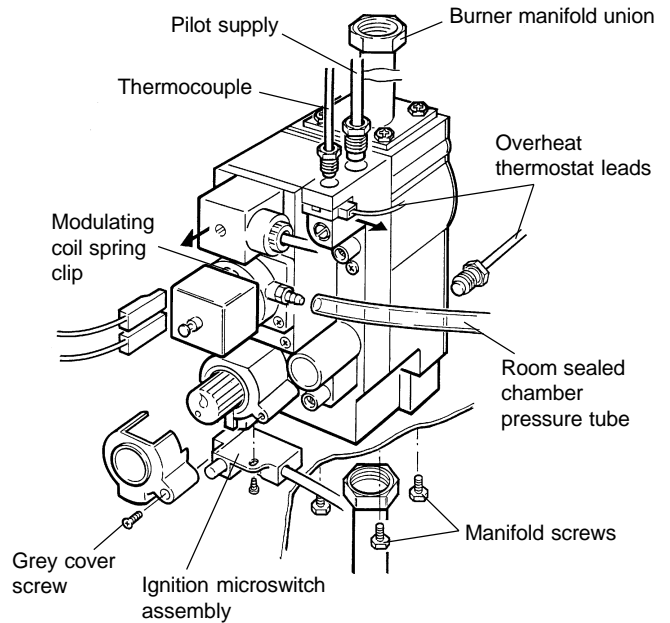

Fig. 24
8.12 GAS VALVE (Alpha 240XP only) - Fig. 24
8.14 GAS VALVE MODULATING COIL - Refer to Fig. 24 or 25